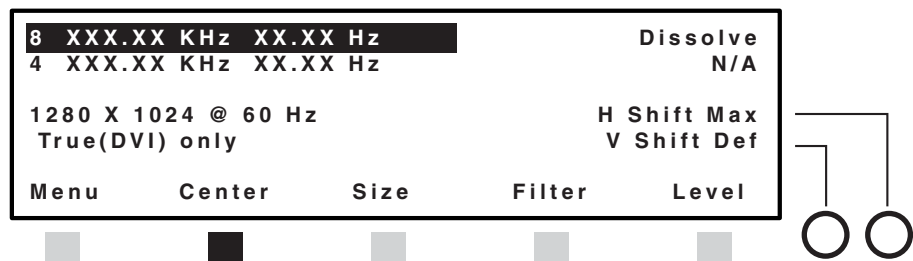

Figure 3-26 — Centering an image
1. From the default screen, press the Center button (figure 3-26). The preview input is highlighted.